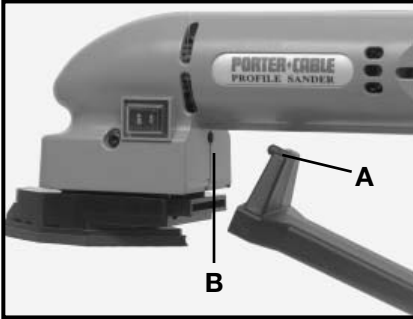

Fig. 13
1. Insert dust wand pin (A) Fig. 13 into hole (B) Fig. 13.